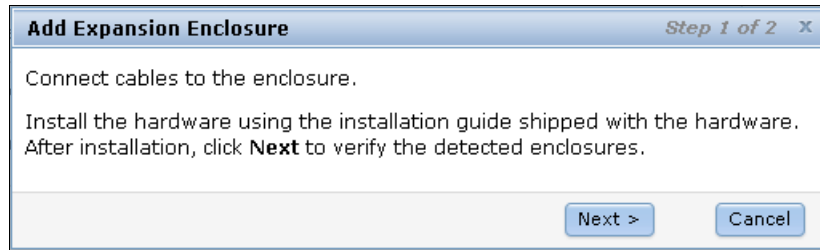

Figure 2-22 Connect Cables
3. You will receive a message to verify you have connected cables as shown in Figure 2-22.